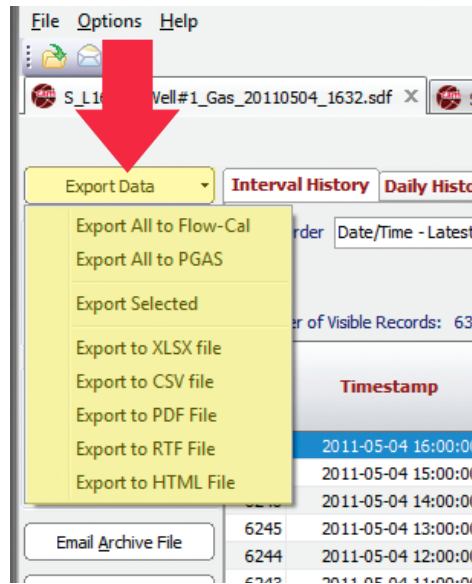

Figure 3.1—Export Data button and dropdown menu
The **Export Data** button and dropdown menu (Figure 3.1, page 32) act as the gateway for all exporting functions.
3. Click on the **Export Data** button in the left column of the screen and choose **Export Selected** from the dropdown menu (Figure 3.1).
1. Click on the **Export Data** button in the left column of the screen and select **Export to...** from the dropdown menu (Figure 3.1, page 32).
2. Click on the **Export Data** button in the left column of the screen and click the desired **Export All as...** selection from the dropdown menu (Figure 3.1, page 32).